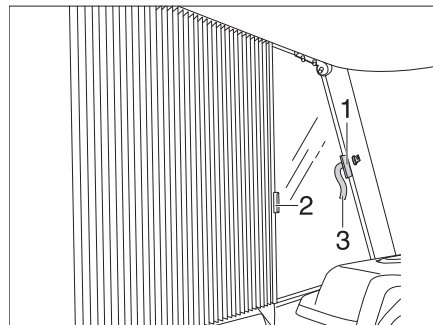

Fig. 80 Roman shade for driver's window and front passenger's window
- Open the Velcro of the securing loops (Fig. 80,3) on both sides.
- Grasp the handles (Fig. 80,1 and 2) of the Roman shades one after the other and draw carefully towards each other until the magnetic catch keeps the Roman shade closed.
- Carefully push the Roman shades back at the handles (Fig. 80,1 and 2).
- Secure the Roman shade with the Velcro of the securing loop (Fig. 80,3).